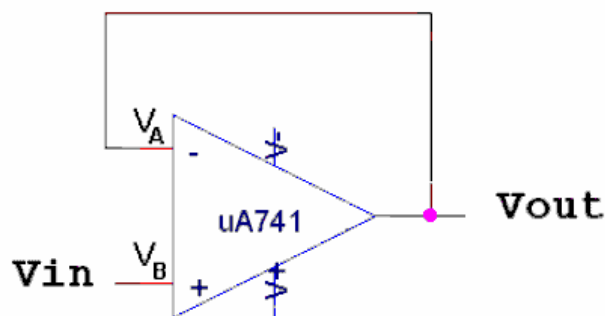

Figure B-1
*The Voltage Follower:* The op-amp configuration in figure B-1 is called a *voltage follower* or *buffer*. Note that the circuit above has no resistance in the feedback path. Its behavior is governed by the equation: